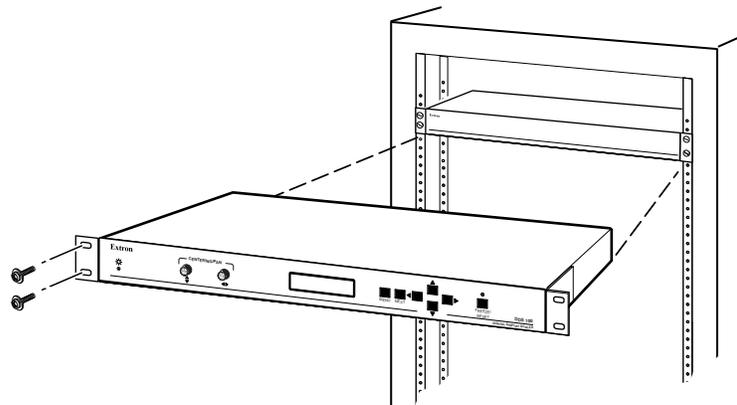

Figure 5 — Mounting the scaler
2. Using two screws per mounting bracket, attach the scaler to the rack as shown in figure 5.